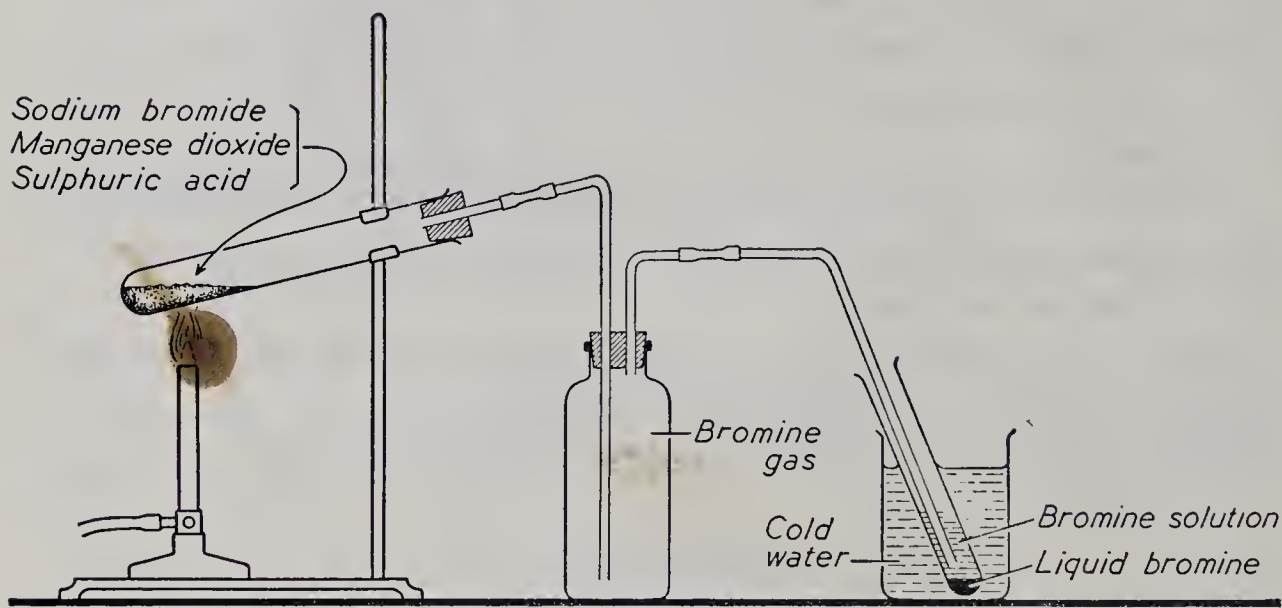

Fig. 67. The laboratory preparation and collection of bromine.
1. Arrange the apparatus as in Fig. 67. Thoroughly mix on a piece of paper one teaspoonful of sodium bromide and one teaspoonful of manganese dioxide. Place the mixture in a large test-tube and add sufficient water to just moisten it. Add sufficient concentrated sulphuric acid to just cover the moist mixture. Quickly insert the stopper containing the delivery tube leading to the gas bottle and observe the reaction. When the reaction diminishes in activity, gently warm the test-tube.
Suggest a reason for collecting the bromine as indicated in Fig. 67.